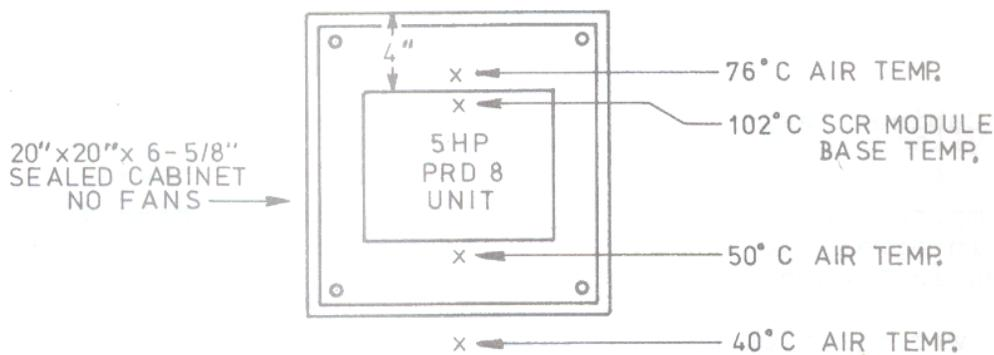
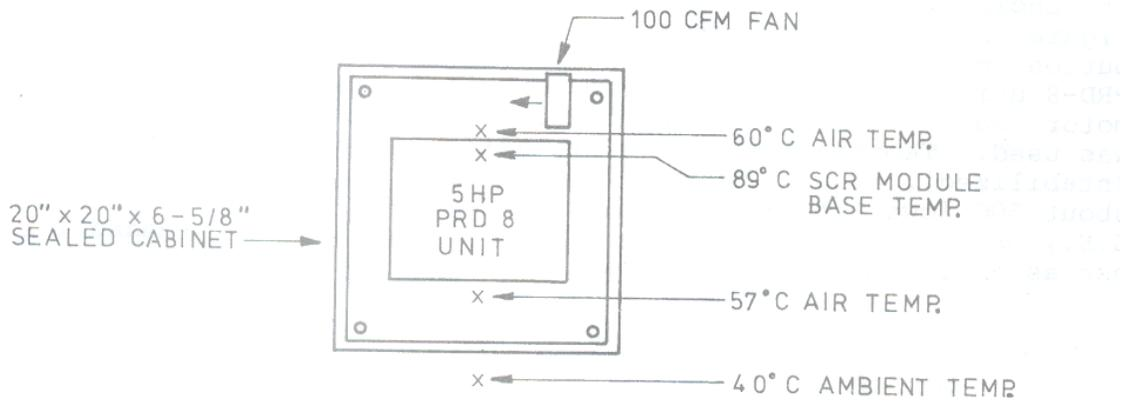

FIGURE 2
FIGURE 3
b) with no cabinet fan	50°C below uppermost PRD-8 (See Figure 2)
For lower horsepower units, physical fit of the PRD-8 unit in the enclosure is the limiting factor in sizing. The following figure, based on actual tests, shows cabinet temperature distribution in a sealed 20" x 20" x 6-5/8" cabinet in which a 5 hp PRD-8 unit was mounted. No fans were utilized and a worst-case motor (Baldor 5 hp, 2400 rpm motor ) operated at 100% rated load was used. Temperatures shown are after 3 hours of operation (stabilized). The 102°C and 76°C temperature readings would be about 5°C lower if higher inductance motors (such as powertron, G.E., or Reliance) were used. Figures 2 and 3 are intended for use as an engineering guide for cabinet selection.
The temperatures shown in Figures 2 are within acceptable limits. If other equipments which generates significant heat is installed in the cabinet with the PRD-8, however, increase enclosure size or add a circulating fan to distribute heat within the enclosure.
Figure 3 shows the effect of adding a circulating fan (100 cfm) inside of the enclosure to eliminate heat buildup near the top of the enclosure. The data shown in Figures 3 is useful in designing layouts for cases covered in sections 5.1.2 and 5.1.3. Test conditions for Figures 3 are identical to those stated for Figures 2 except for the addition of the fan.
Cabinet temperatures for a 7 1/2horsepower PRD-8, which includes an internal 100 cfm fan, will be 5°C to 7°C higher than those shown in Figure 3, which is an acceptable level.
In general any arrangement of PRD-8 units in a sealed (NEMA 12 or NEMA 4) cabinet will yield acceptable temperatures if in-cabinet fans are used to prevent localized heat buildup such as is shown in Figure 2. A 4" minimum spacing must be provided between the PRD-8 units, top and sides.